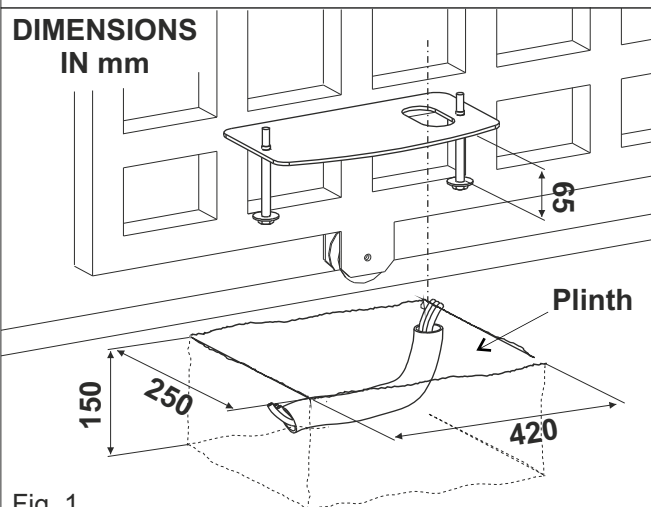

Fig. 1
**2.1.** Prepare a concrete basement according to the dimensions shown in Fig. 1; The foundation plate and the anchor bolts will be concreted inside the basement